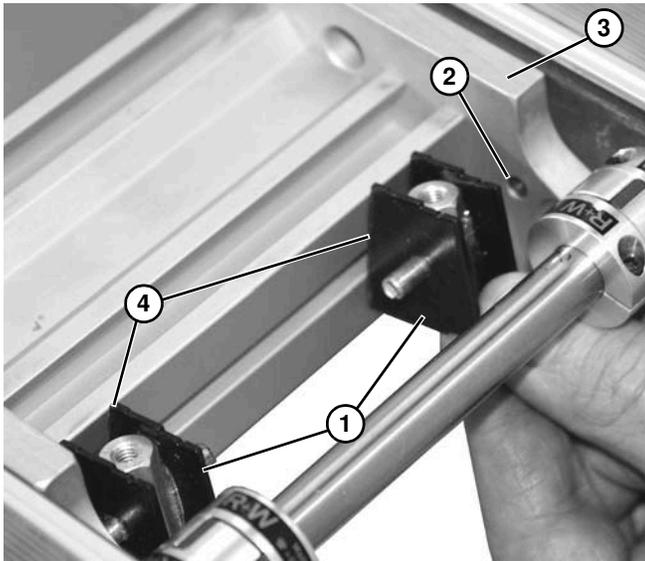

Figure 30
11. Install guard plate (Figure 30, item 1) pin into hole (Figure 30, item 2) on each side of tie tube (Figure 30, item 3).
Install guard plate (Figure 30, item 1) with offset angle (Figure 30, item 4) facing tie tube (Figure 30, item 3).